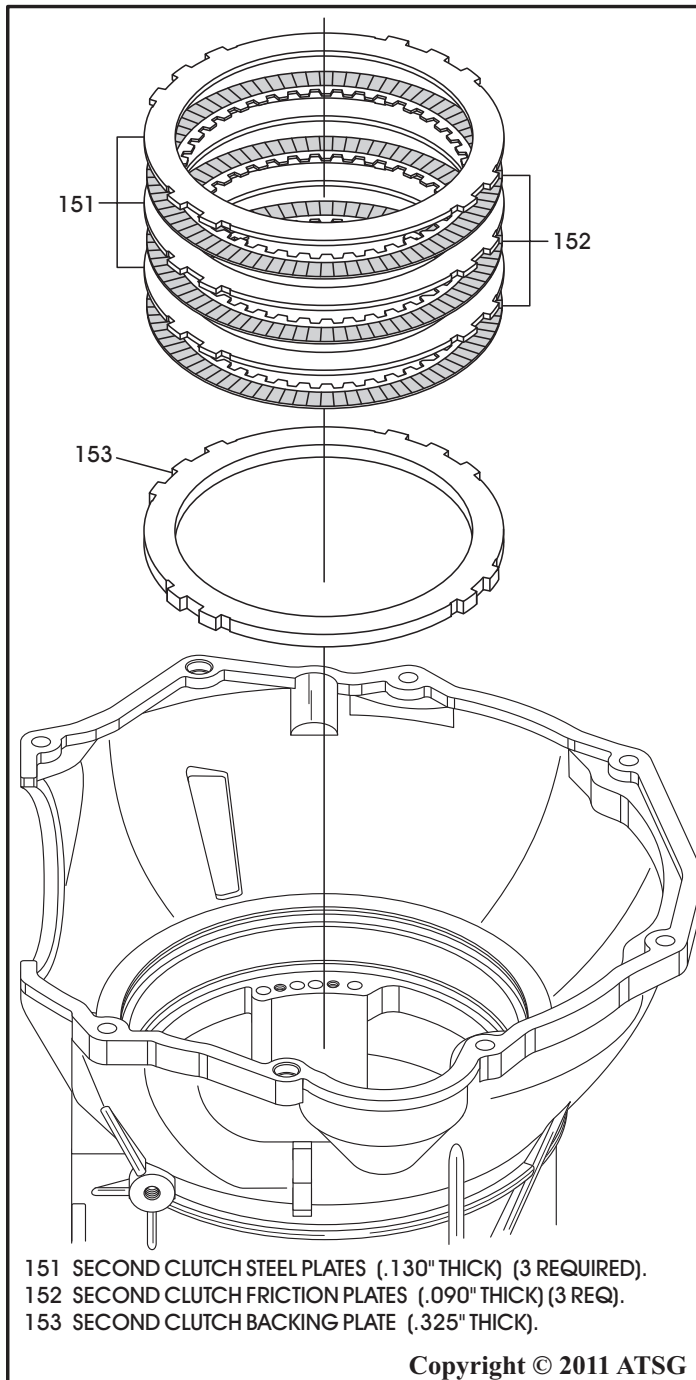

Figure 137
1. Install the 2nd clutch backing plate into the case, as shown in Figure 137.
2. Install 2nd clutch pack beginning with a friction plate and alternating with a steel plate until you have 3 of each installed, as shown in Figure 137.